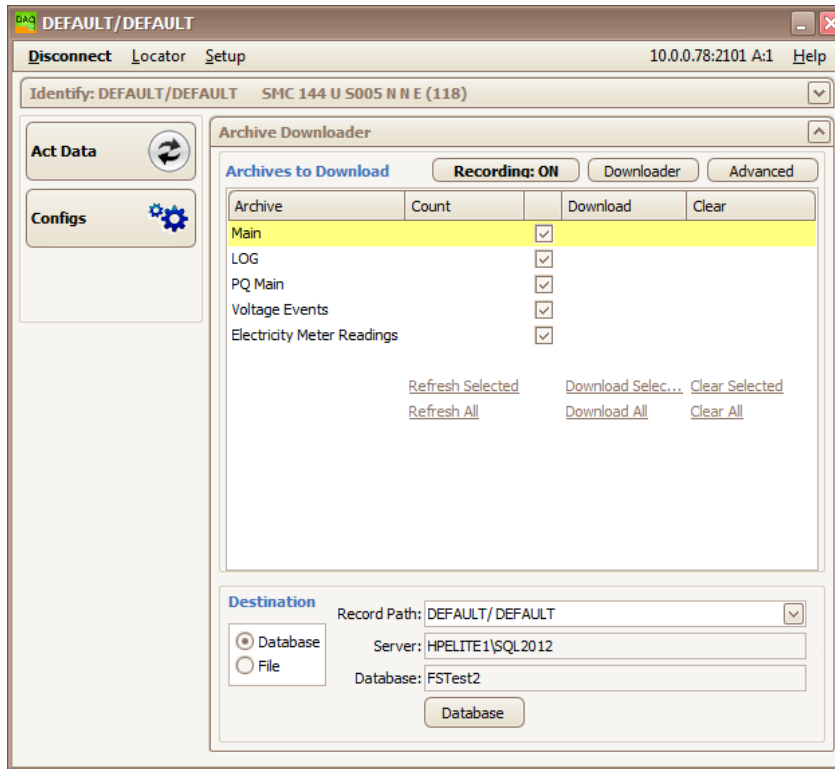

Figure 10: ENVIS.Daq application connected to the instrument.
5. Press the *Connect* button or the *ENTER* key. application will attempt to connect to the instrument. In case of successful connection it reads the configuration from the instrument and displays new window with summary information (figure 10).